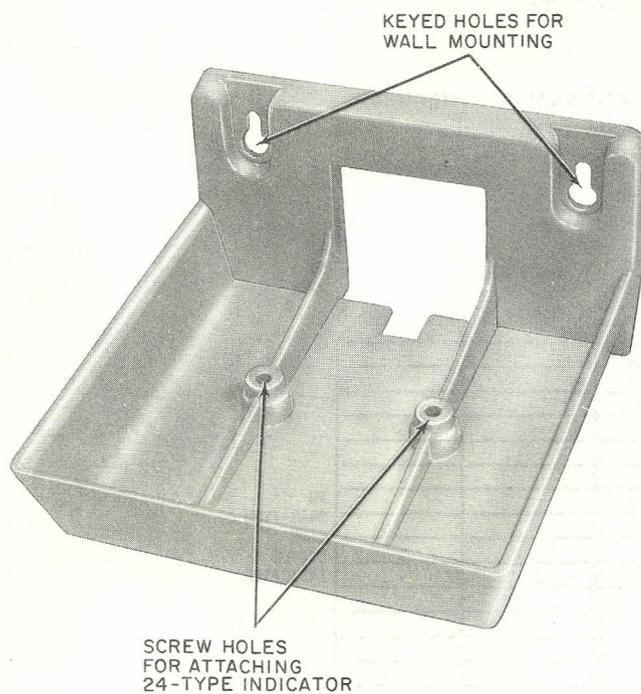

Fig. 5—115A Bracket
3.02 When indicator is to be wall mounted, locate a wall stud and attach 115A bracket (Fig. 5) to wall using one No. 8 × 3/4-inch PH screw into the wall stud and one molly bolt into the wall surface where there is no stud. If indicator is to
3.03 The 115A bracket (Fig. 5) may be mounted over a wall outlet box by positioning opening in backboard over wall receptacle opening and attaching bracket to backboard with No. 8 × 3/4-inch PH screws.